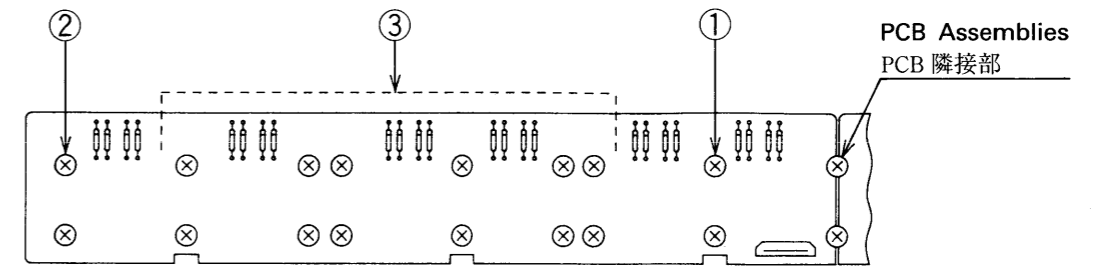

fig. 7 (Example: 32P LOW screwing sequence) (例 32P LOW ねじ止め順序)
4) Next, fasten both the PCB LOW and HI Assemblies with the Tap Tite Screws, starting at the keyboard center 1. At this time, the PCB Assemblies may be raised from the Spacers by screwing. To avoid this, fasten the end 2 after screwing the center 1. (See fig. 7.) Since the PCB Assemblies may have been warped by soldering, etc., it is recommended to gently hold down the center when screwing. Finally, screw the adjacent area of the PCB LOW and HI Assemblies.
4) 次に、TAP TITE SCREWSでPCB LOW、HIをともに鍵盤中央部1からねじ止めしていきます。ねじ止めによって、PCBがSPACERより浮きあがってしまうことがあるため、中央部1をねじ止めたのち端部2を先に締結します。(fig.7参照のこと)